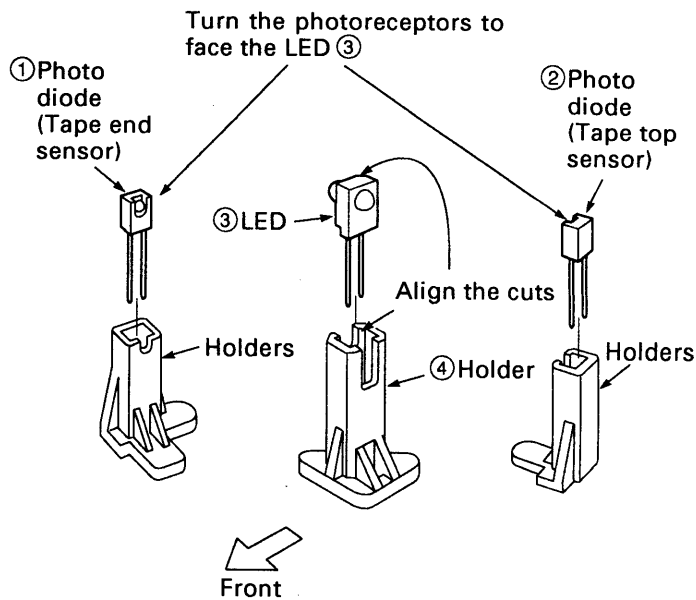

Fig.3-18-1
#### 3-18-1 TAPE TOP SENSOR AND TAPE END SENSOR (See Fig.3-18-1)
1. Fit the photo diodes ① and ② so that their photo-receptors to face the LED ③, as shown in Fig.3-18-1. Align the cuts in the LED ③ and the holder ④. Push the photo diodes ①, ② and the LED ③ as far down as they will go, so that they do not protrude above the top of their holders.